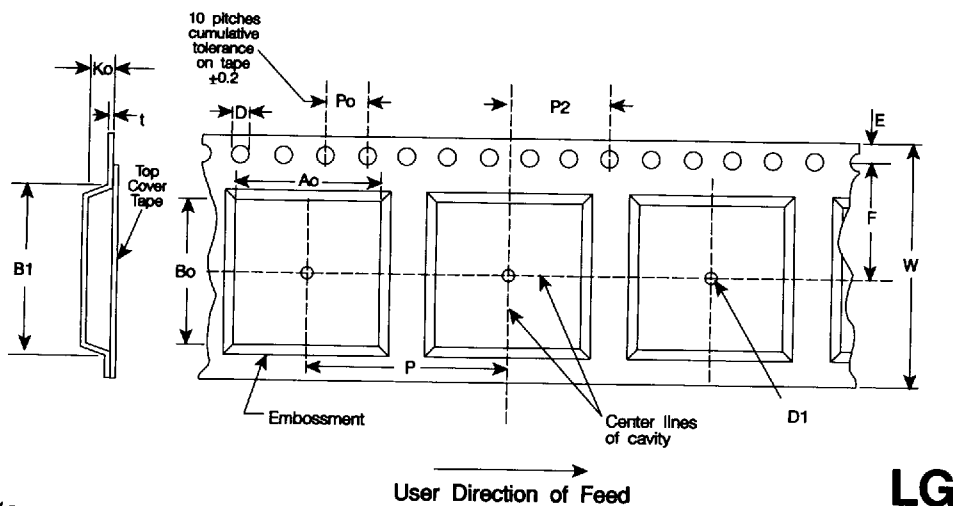

Fig.1a
**2. Dimensions** (Refer to Figures 1a, 1b and 1c)